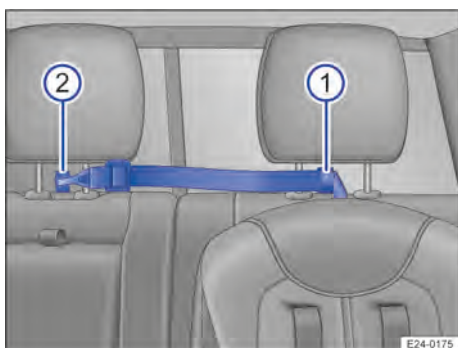

Fig. 49 Attaching the top tether strap (illustration).
2. Feed the top tether through the top tether loop → Fig. 49 ① under the head restraint.
4. Attach the top tether in the top tether loop → Fig. 49 ② under the middle head restraint.